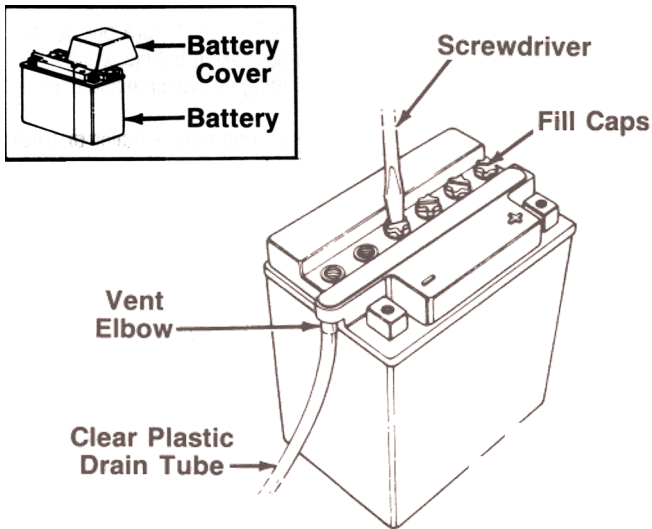

FIGURE 2.
1. Lift the seat. Remove the battery cover by pressing in on the sides and lifting up. See figure 2 inset. Remove the battery from the rear frame.
4. Remove the six fill caps from the top of the battery with a screwdriver. Be careful not to damage the fill caps. See figure 2.